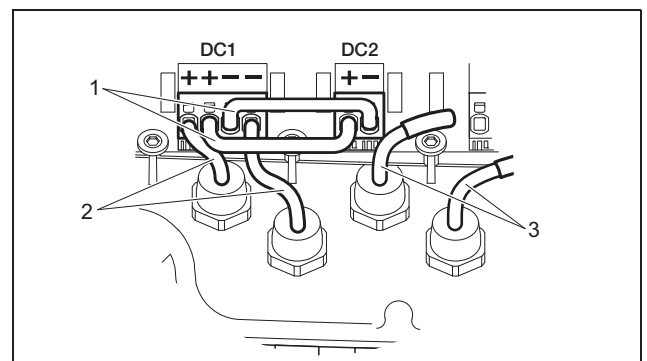

Fig. 20: Inputs 1 and 2 connected in parallel (PIKO 3.6/4.2)
- PIKO 3.6/4.2/7.0/8.3/10.1: If required, now connect inputs 1 and 2 **in parallel**. Insert the bridges supplied into the clamps as shown (figure 20/21).